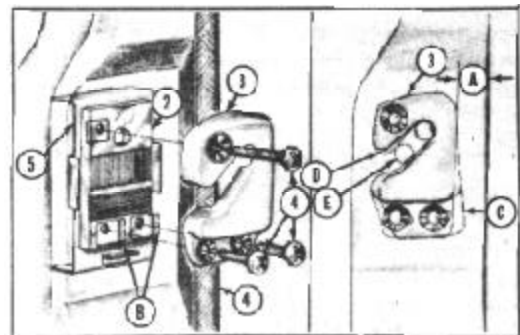

FIGURE 21
The door striker plate (3), Figure 21, is mounted on the body pillar and is attached to a tapping plate on the inside of the pillar.